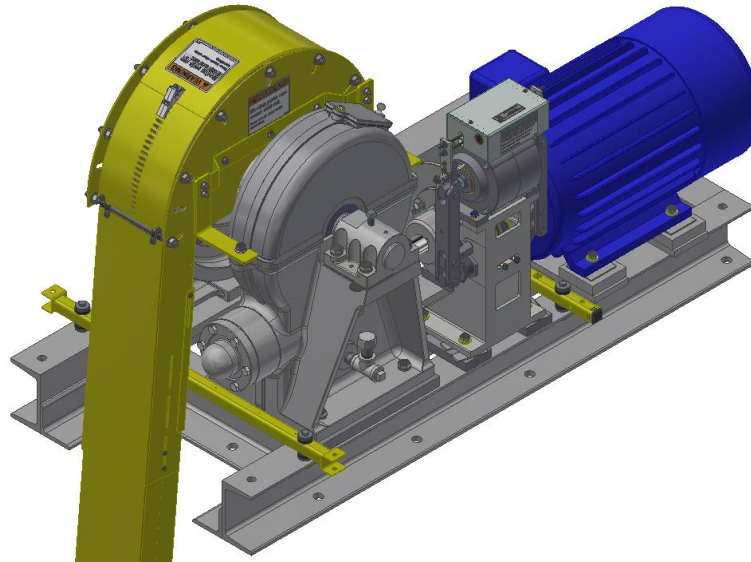
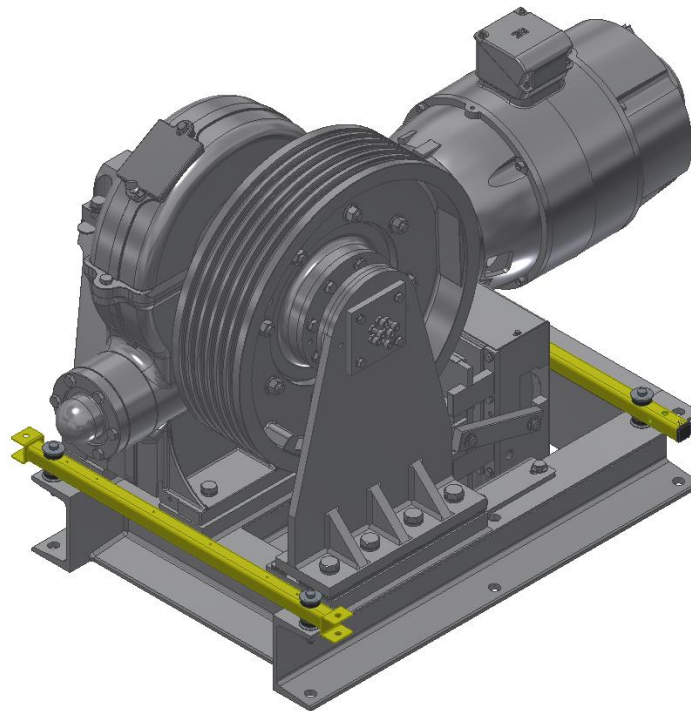

Figure 8: Machine Guard Mounting Tube Assembled View
Figure 9: Machine Guard Mounting Tube Assembled View (Flange Mount Machine)
- For an assembled view of current progress for a machine with a foot mounted motor reference the Machine Guard Mounting Tube Assembled View below (Figure 8). For an assembled view of current progress for a machine with a flange mounted motor reference the Machine Guard Mounting Tube Assembled View below (Figure 9).